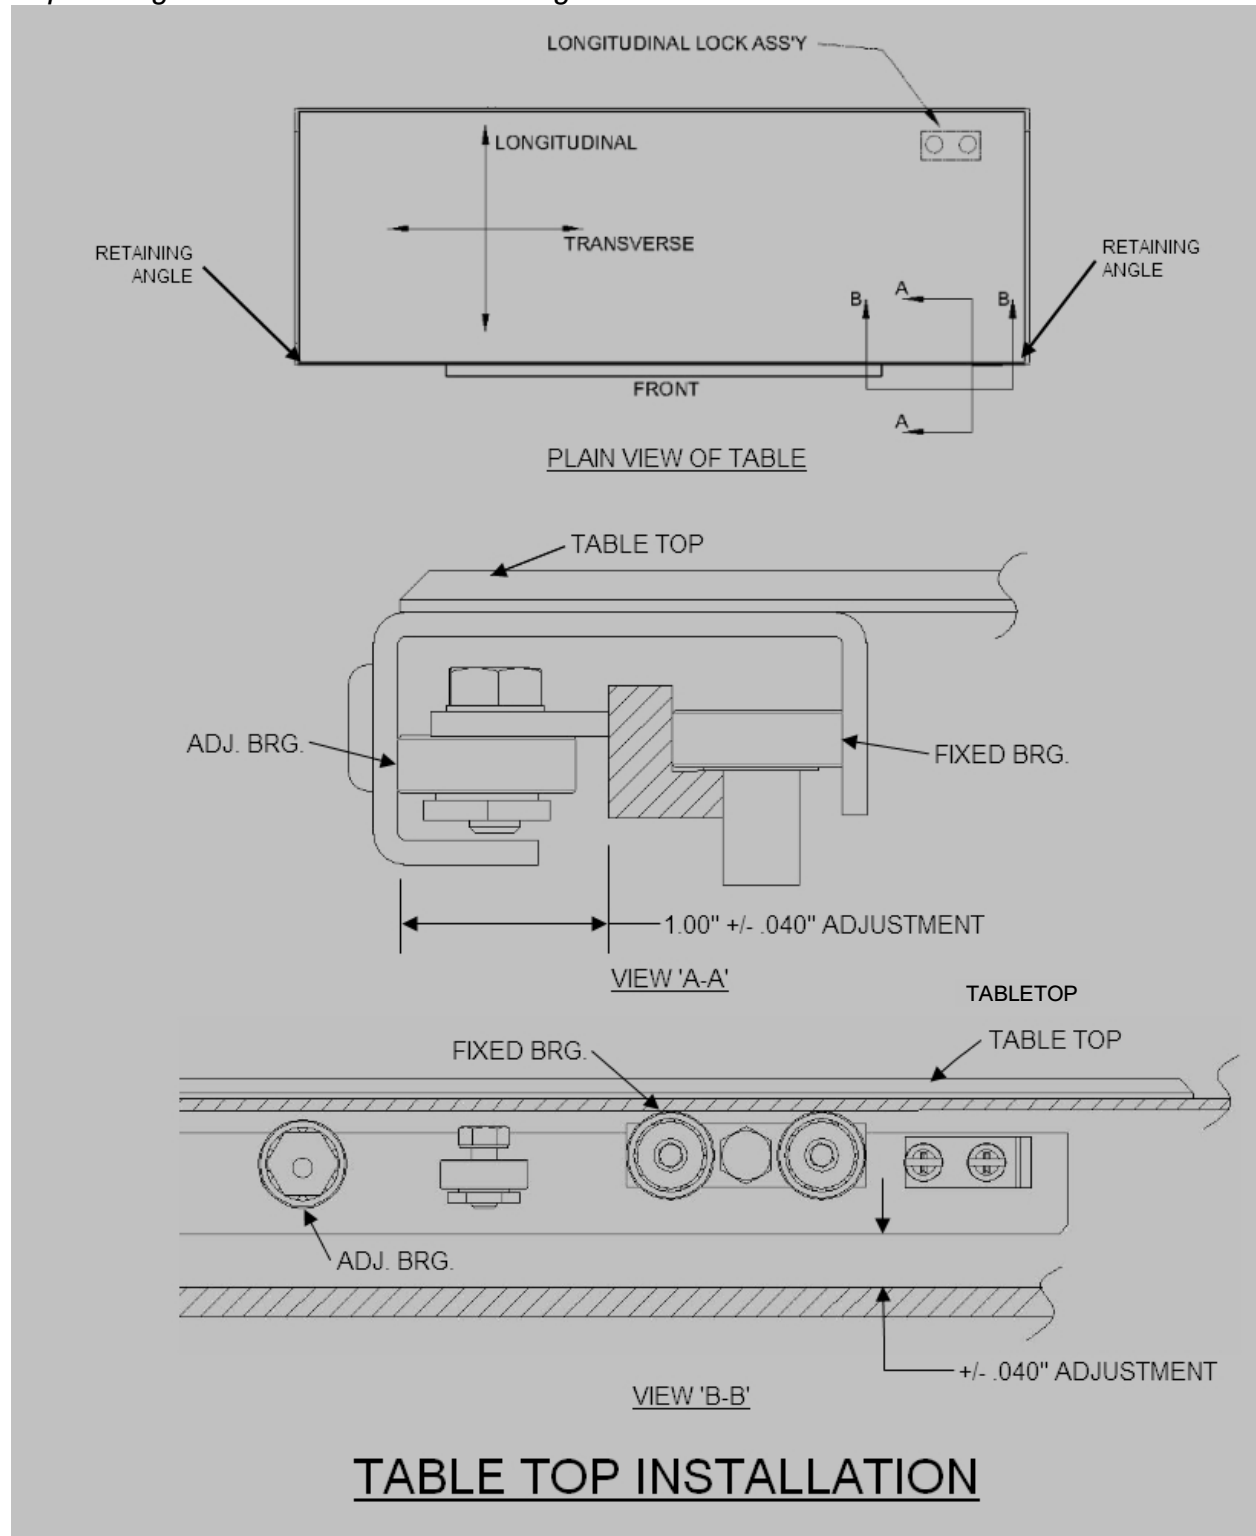

Figure 3
- 2) Refer to Figure 3 and remove the retaining angles at each end of the table.
- A) Transverse Bearing Adj. (Figure 3 View A-A)
- B) Vertical Bearing Adj. (Figure 3 View B-B)